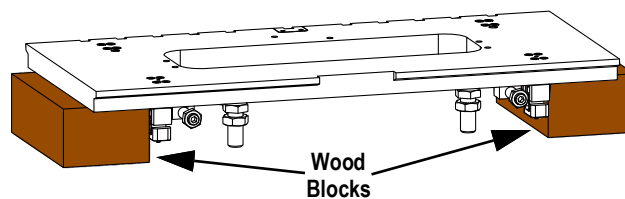

Figure 8-4. Wood Blocks
11. Turn over the front plate assembly so that the plate faces up (see Figure 8-4).